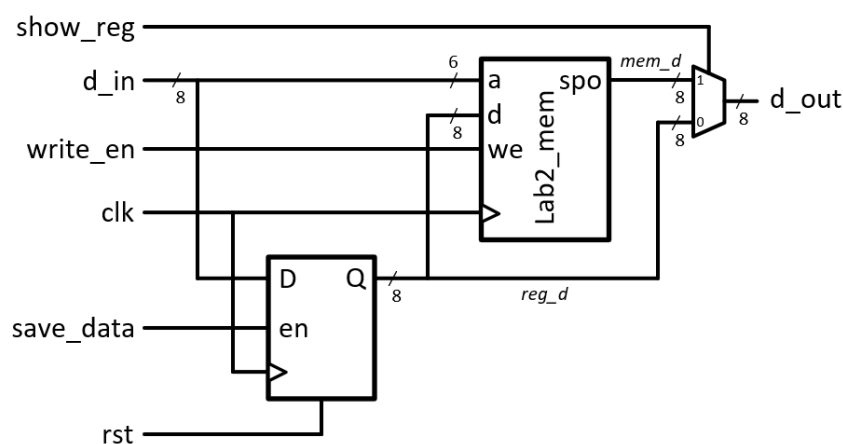

Fig. 1: Block diagram of memory circuit
Task 1:	To design the Lab2_top Verilog module, instantiating a 64 x 8-bit distributed RAM IP as per Fig. 1.
1. Add a new Verilog source module (called Lab2_top). It should have single bit *clk*, *rst*, *write_en*, *save_data* and *show_reg* inputs, along with an 8-bit *d_in* input and an 8-bit *d_out* output. Declare two internal 8-bit signals, *reg_d* and *mem_d*, as per Fig. 1.
4. At the bottom of the Sources window, click “IP Sources”. Expand the Lab2_mem item and then the Instantiation Template. Open Lab2_mem.veo. Scroll down to where it says “Begin cut here ...”, and copy the instantiation template. Open your top module (Lab2_top.v) and paste the template above the **endmodule** statement. Change the instance name to something a bit simpler (such as U1) and edit the port connections to match Fig. 1. Note that the memory address (a) is 6-bits, so use *d_in[5:0]* for the memory address.
5. Then in an **always** block, reset the internal register (*reg_d*) to zero when (the active high) reset (*rst*) is asserted, else when the *save_data* input is asserted, the internal register stores the value of *d_in*. Check Fig.1 for more details of connection.
7. A block diagram of the expected functionality is shown in Fig. 1. Note: At this stage you should not include any additional Verilog modules.
9. Under RTL ANALYSIS, select “Open Elaborated Design”, then select “Schematic”. Verify that the schematic resembles that of Fig. 1.